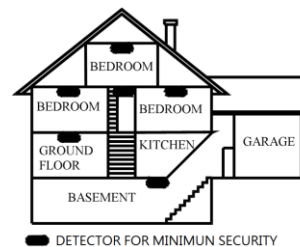

Figure 3:
- Install a smoke detector on every floor of a multi-floor home or apartment, as shown in **Figure 3**.